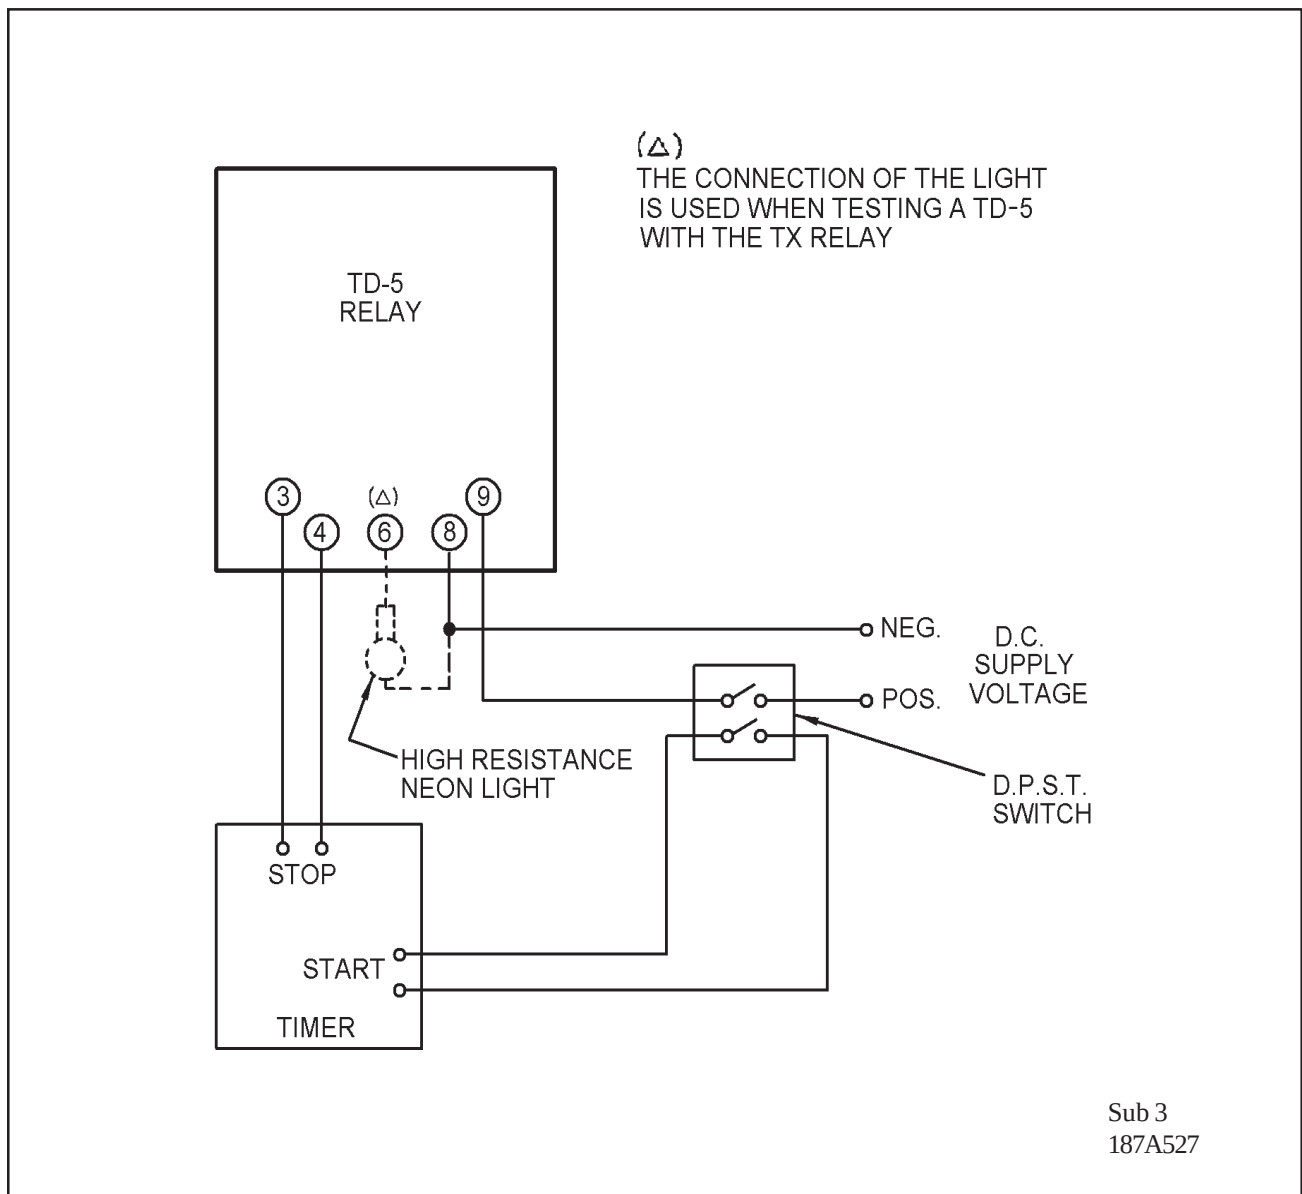

Figure 4. Test Circuit for Type TD-5 Relay
The first time delay, as measured with the test circuit shown in Figure 4, taken at 25° C and rated voltage, will be within four milliseconds of its setting for settings of 0.2 seconds or less. For settings above 0.2 seconds, this accuracy will be $\pm 2\%$.
The following check is recommended to insure that the relay is in proper working order. Perform a timing check at minimum and maximum settings. A recommended test circuit is shown in Figure 4. When testing the TD-5 with a TX relay make the dotted connection as shown
in Figure 4. The neon lamp will light if the TX relay is operating properly.
2. Check the reference voltage circuit. This is done by measuring the dc voltage across the silicon power regulator, Z or Z1. Connect the dc voltmeter positive terminal to the bottom terminal of RS and the negative terminal to relay terminal 8. Apply rated voltage per the test circuit diagram, Figure 4. The Zener voltage should be between 11.0 and 14.0 volts for 24/32 VDC relays, between 21.5 and 25.5 volts for 48/125 VDC relays, and between 50 and 59 volts for 250 VDC relays.